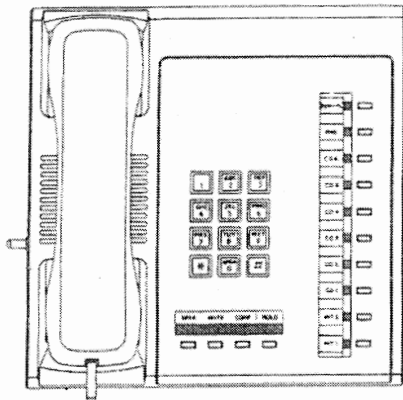

FIGURE 8
03.21 The principal components of the STRATA VI Electronic Key Telephone (Figure 8) are: Handset, Dial Pad, Speaker, Ringing Volume Control, Speakerphone Volume Control, 2 Intercom Keys, 6 CO/PBX Line Keys and 6 Feature Keys. Keys for the Intercom, CO/PBX Lines, Speakerphone, Message Waiting/Flash and Do Not Disturb are provided with LED indicators—HOLD, CONF and MUTE keys have no LEDs.